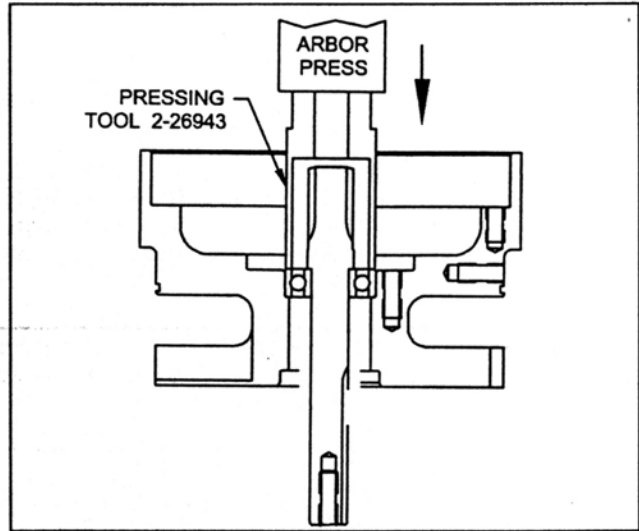

Figure 12. Turbine Shaft Installation
Press the turbine bearing/shaft assembly (8,22) into the turbine housing (19). Use press tool P/N 2-26943 if required per figure 12. Do not press on the end of the shaft because the load could damage the balls of the bearings.